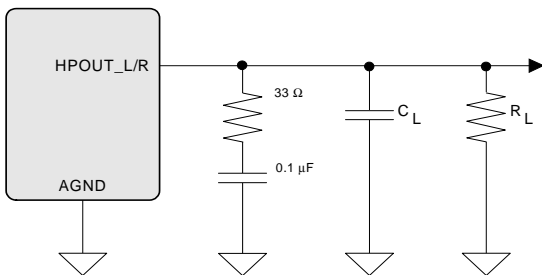

Figure 3. Output Test Load, Headphone Out
(Test conditions (unless otherwise specified): Input test signal is a full-scale 997 Hz sine wave; $V_D = 1.8\text{ V}$; $V_{L_HD} = V_{L_IF} = 3.3\text{ V}$; $T_A = +25^\circ\text{C}$; Measurement bandwidth is 10 Hz to 20 kHz; test load $R_L = 10\text{ k}\Omega$, $C_L = 10\text{ pF}$ for the line output and test load $R_L = 16\ \Omega$, $C_L = 10\text{ pF}$ for the headphone output (see Figure 3); DAC Gain = 0 dB).
10. See Figure 3. R_L and C_L reflect the recommended minimum resistance and maximum capacitance required for the internal op-amp's stability and signal integrity.
(Test conditions (unless otherwise specified): Input test signal is a full-scale 997 Hz sine wave; $V_D = 1.8\text{ V}$; $V_{L_HD} = V_{L_IF} = 3.3\text{ V}$; $T_A = -40\text{ to }+85^\circ\text{C}$; Measurement bandwidth is 10 Hz to 20 kHz; test load $R_L = 10\text{ k}\Omega$, $C_L = 10\text{ pF}$ for the line output and test load $R_L = 16\ \Omega$, $C_L = 10\text{ pF}$ for the headphone output (see Figure 3); DAC Gain = 0 dB).
12. See Figure 3. R_L and C_L reflect the recommended minimum resistance and maximum capacitance required for the internal op-amp's stability and signal integrity.